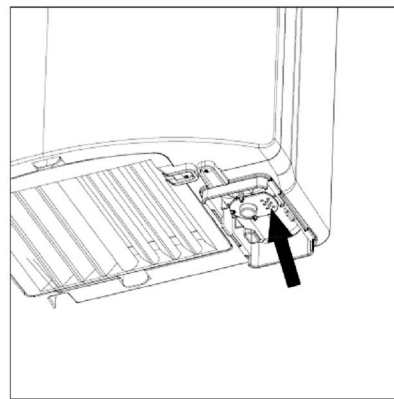

Figure 9
- II. Press the push button as indicated in Fig. 9 until remove all the water contained into the water tank.